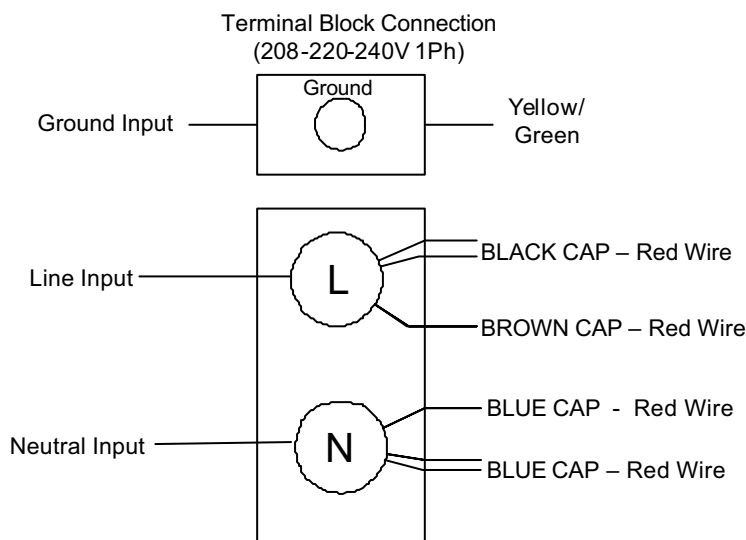

Fig. 6
- To access to the electrical connection block (R) (Fig. 1), remove the top cover (T) (Fig. 1) and the rear panel (P) (Fig. 1). Connect the wires as shown in figure 6. Insert the power cord through the cord holder (E) (Fig. 1) and make sure to leave enough cable to remove the electrical panel from the front for service. Tighten the connections.